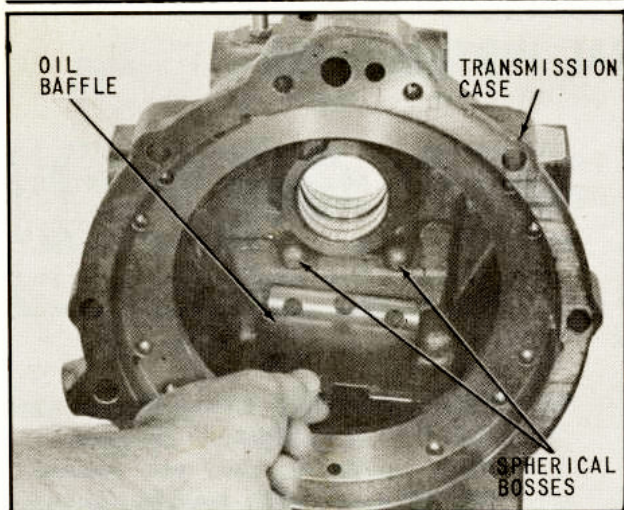

Fig. 18 Installing Oil Baffle
4. Place oil baffle inside transmission case with curved portion below cast spherical bosses in case as shown in (Fig. 18).